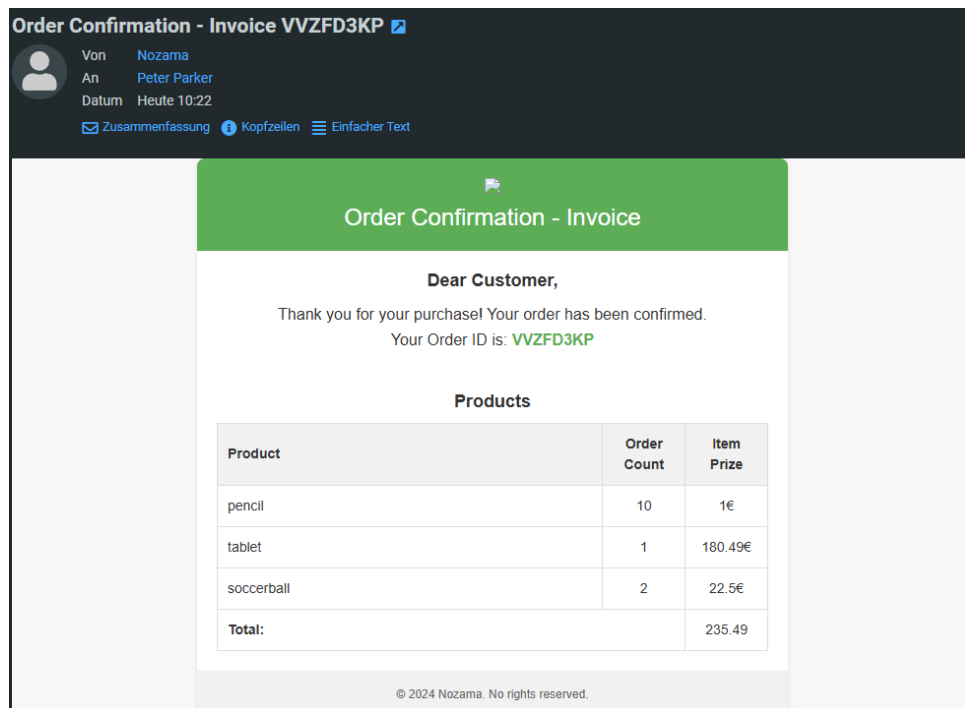

Figure 6: Example of the invoice which the customer receives.
– Output: E-Mail (see Figure 6)